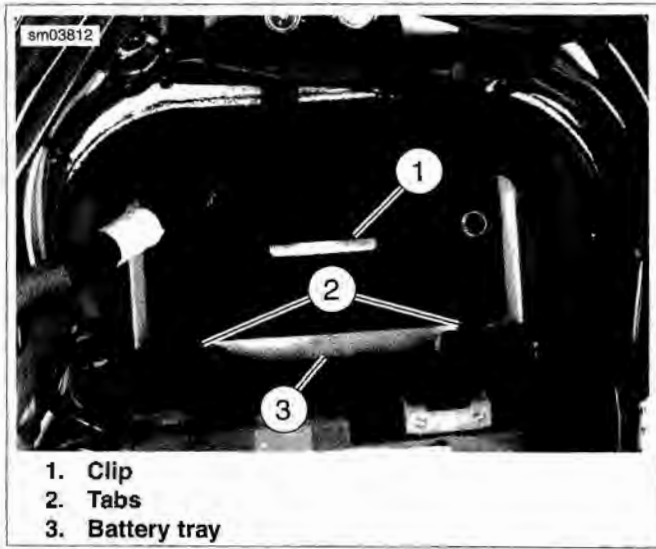

Figure 1-63. Battery Caddy
3. See Figure 1-63. Place battery caddy into position and install battery caddy clip (1) under front of battery tray (3). Make sure tabs (2) of battery caddy fit over rear of battery tray.